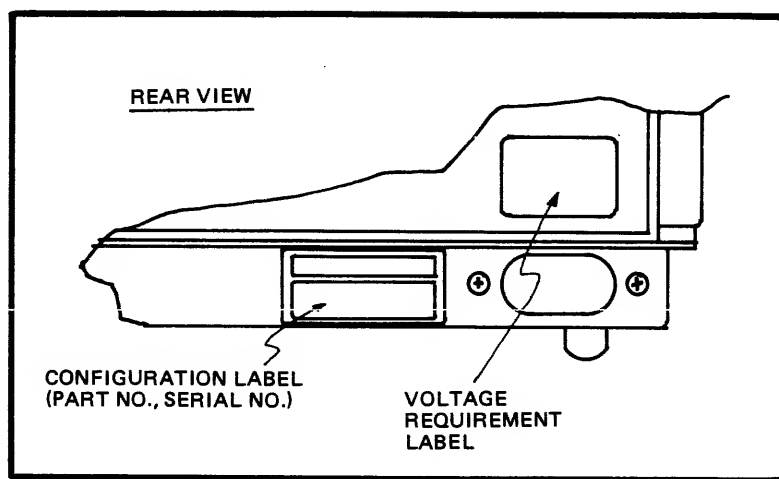

Figure 24. Label Locations
e. Revise the power voltage label (figure 24) to indicate the AC voltage for which the Printer has been configured.